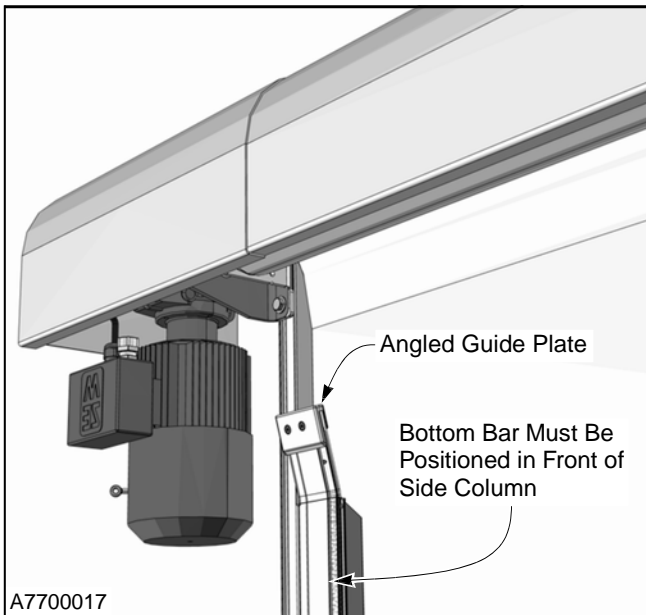

Figure 48
1. Position the breakaway tabs of the bottom bar in front of the side column where the angled guide plate is located. (See Figure 48.)